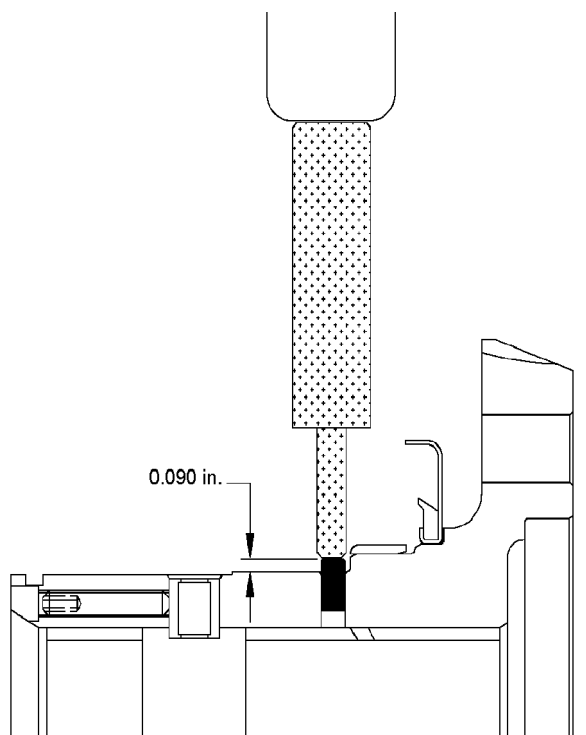

FIGURE 7-38.
2. If removed, install dowel pin (43) into fan mounting hub assembly (42). Refer to Figure 7-38. Press the pin into the hub, leaving 2.3 mm (0.090 in.) exposed.
If the shaft did not originally come with pinned bearings, install the dowel per instructions in Figures 7-38 and 7-39.